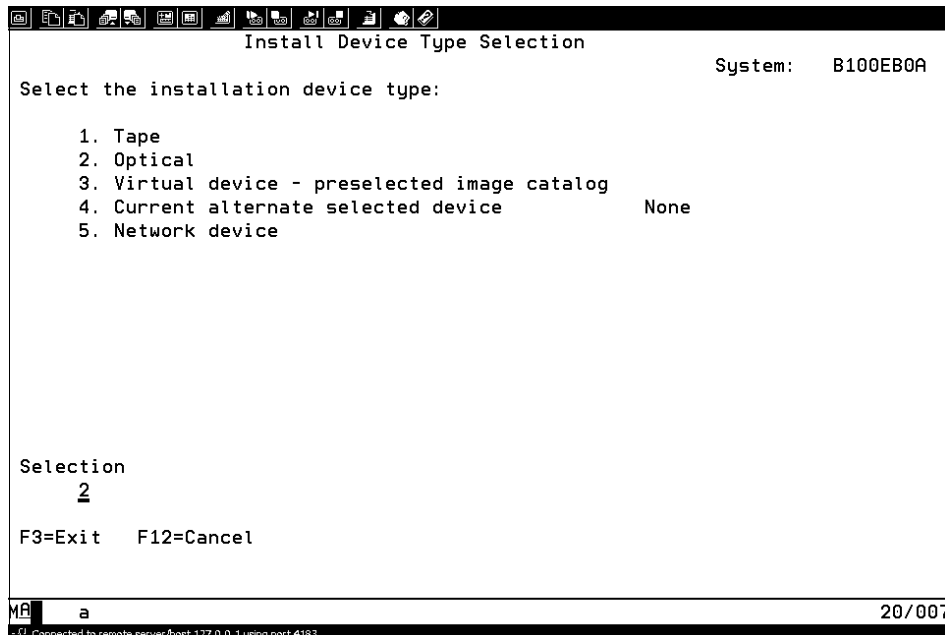

Figure 7-59 Select install device
1. On the IPL or Install the System screen on the console, type the number that corresponds to the correct device type as shown in Figure 7-59 on page 304. In our case we used option 2 for the assigned virtual optical devices.